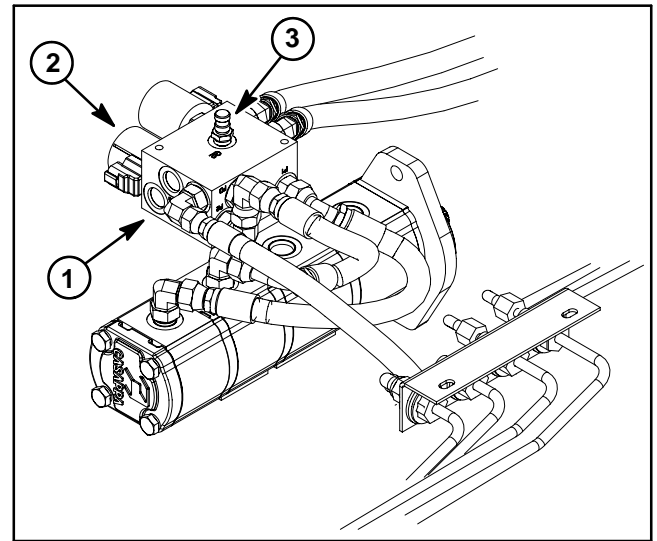

Figure 44
3. Raise seat to gain access to cooling fan circuit test port at the fan drive manifold (Fig. 44). Connect a 5,000 PSI (345 bar) gauge with hydraulic hose attached to test port on top of manifold.